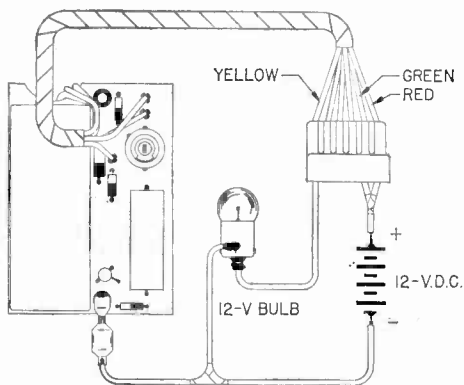

Fig. 11
A. Initial Tests and Preparations (See Fig. 11)